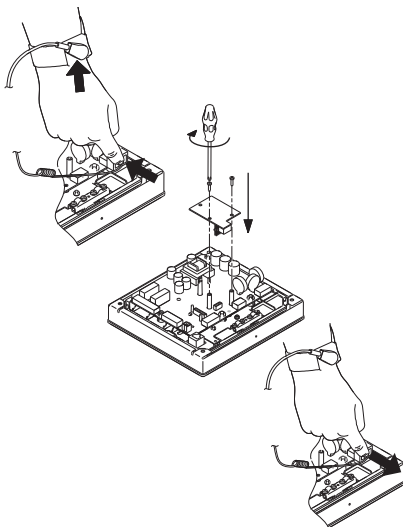

Fig. 13 Fitting the CIM module
Electrostatic discharge (ESD) must be avoided when fitting the CIM module, for instance by wearing an antistatic wrist strap as shown in fig. 13.
3. Fit the CIM module. See fig. 13.